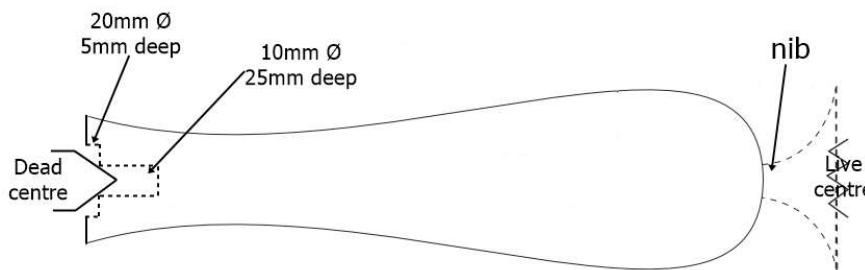

Fig 1
- 2] At one end drill a hole 20mmØ and 5mm deep – this is to house the flange section leaving a small amount showing (see fig 1)